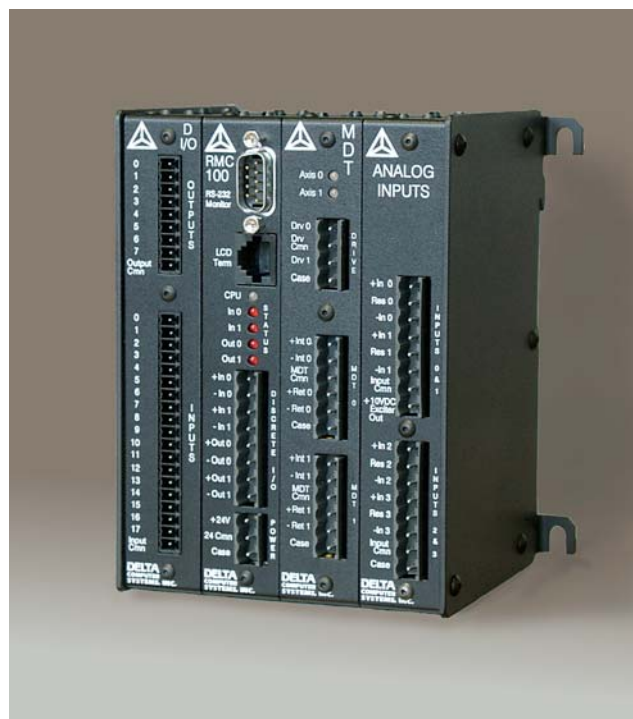

Figure 1. Motion controller with wide array of digital and analog interfaces
3. Motion controllers with pre-programmed functions and flexible bus interfaces (See Figure 1 for example).